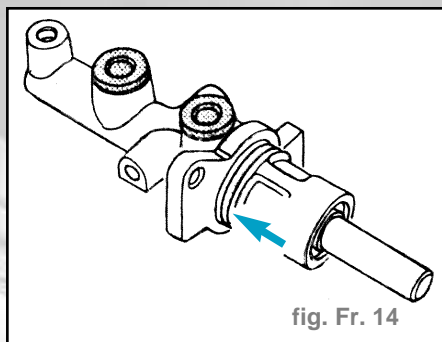

fig. Fr. 14
- Remplacer le joint torique (fig. Fr. 14).